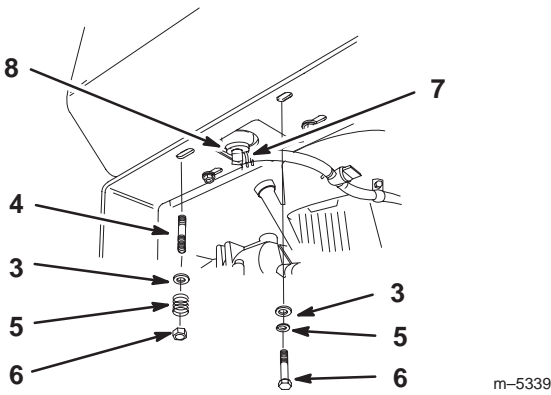

Figure 2
1. Align fuel tank to top of rear frame and secure fuel tank right side with 2 bolts (5/16 x 7/8 in.), 2 lock washers (5/16 in.) and 2 washers (5/16) (Fig. 2).
2. Secure fuel tank left side to frame with 2 studs (5/16 x 7/8 in.), 2 washers (5/16 in.), 2 springs and 2 locknuts (5/16 in.) (Fig. 2).
3. Slide the hose clamp onto the fuel line (Fig. 2).
4. Push the fuel line onto the fuel tank connection and secure it with a hose clamp (Fig. 2).